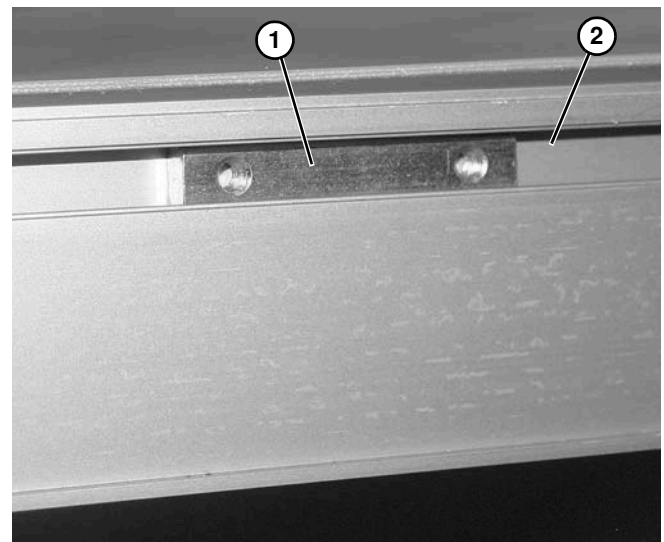

Figure 15
3. Insert tee bars (**Figure 15, item 1**) into conveyor side slots (**Figure 15, item 2**).